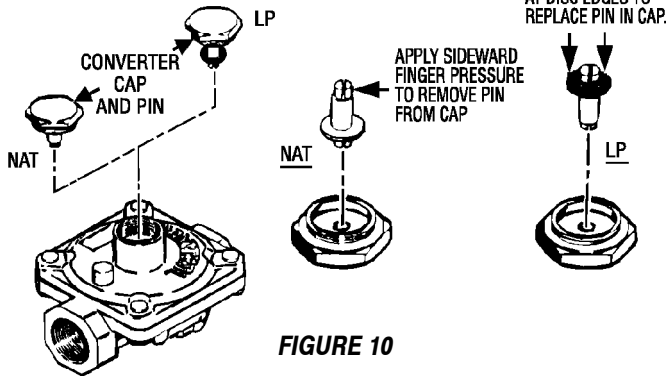

FIGURE 10
B. INVERT CAP IN APPLIANCE PRESSURE REGULATOR (See figure 10)
B. INVERT CAP IN APPLIANCE PRESSURE REGULATOR. (See figure 10).